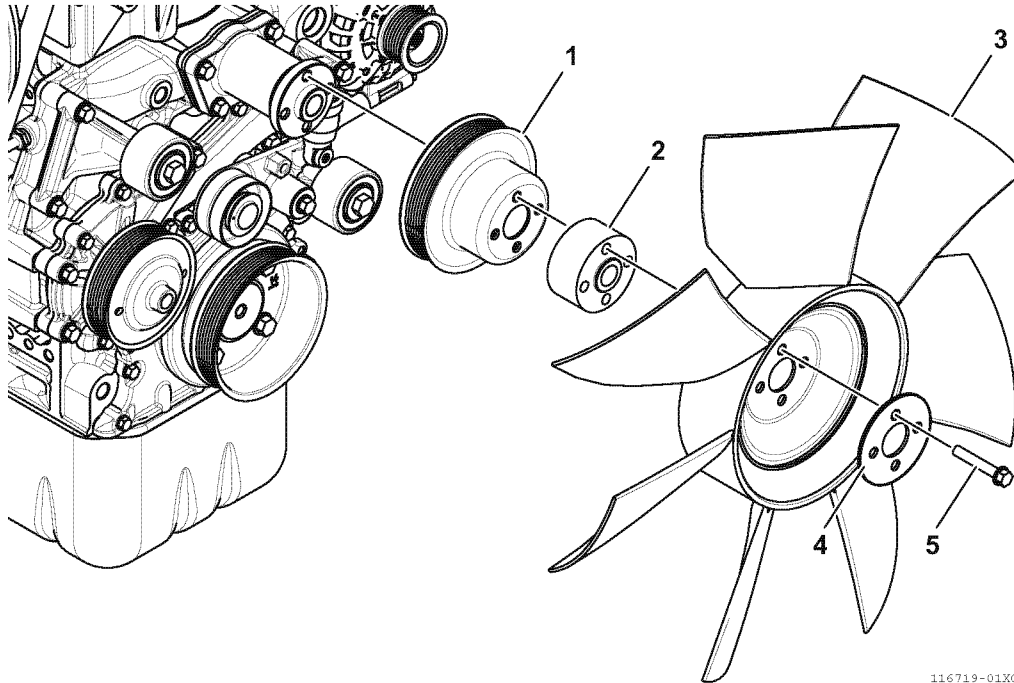

Fig.40-25
- 1 - Install the cooling fan pulley (1, Fig.40-25), fan spacer (2, Fig.40-25), and cooling fan plate (3, Fig.40-25) in sequence, and tighten the cooling fan mounting bolts (5, Fig.40-25).